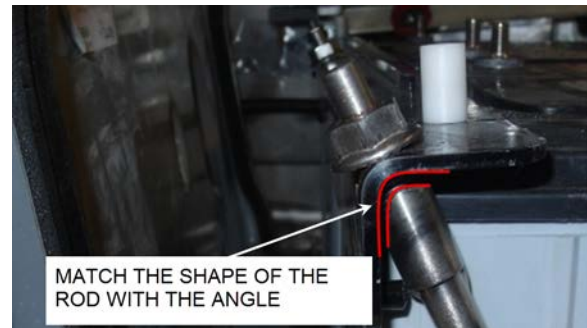

FIGURE 50: SHAPE OF THE ROD
3. The upper end of the rods is shaped to match with the angle (FIGURE 50).